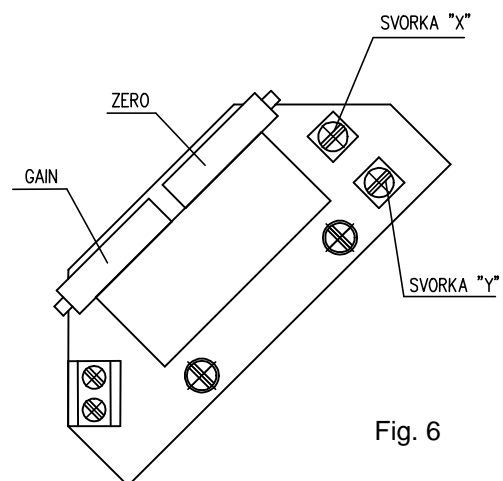

Fig. 6
#### 4.4.1 EPV – the 2-wire version (Fig. 6)
- Adjust the resistive transmitter according to the previous chapter. The resistance is to be metered on the terminals X-Y (Fig. 6). The used transmitter resistance is 100  $\Omega$ .
- Turn the adjusting trimmer ZERO (Fig. 6) to adjust the output current signal rate measured on the terminals 81-82 to 4mA.
- Turn the adjusting trimmer GAIN (Fig. 6) to adjust the output current signal rate measured on the terminals 81-82 to 20mA.
- Adjust the resistive transmitter according to the previous chapter. The resistance is to be metered on the terminals X-Y (Fig. 6).